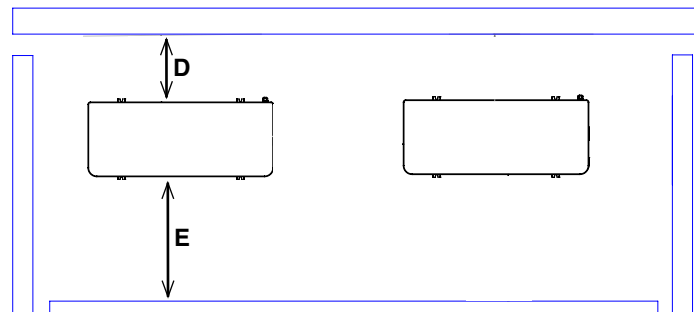

Figure 5-3: Minimum Clearances and Air Flow
1. Clearances shown in Figure 5-3 assume no wall extends more than 6 in. above roof top of heat pump. There is no overhead roof and no more than two barrier walls on either side.